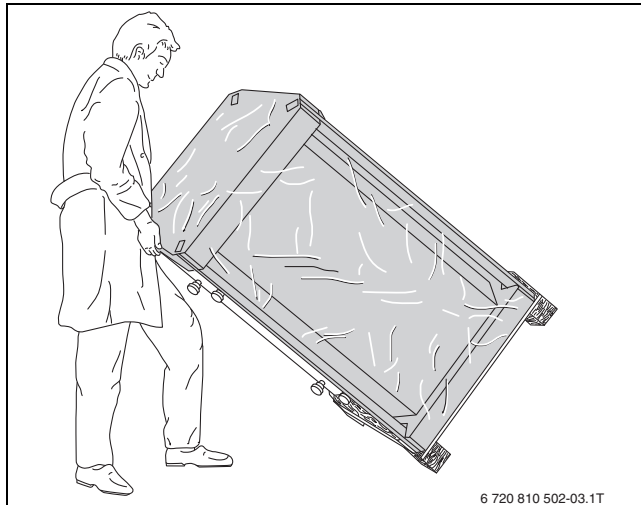

Fig. 8 Positioning the tank
- ▶ Tip the DHW tank over on the edge of the pallet and set it on its feet (→ Fig. 8).